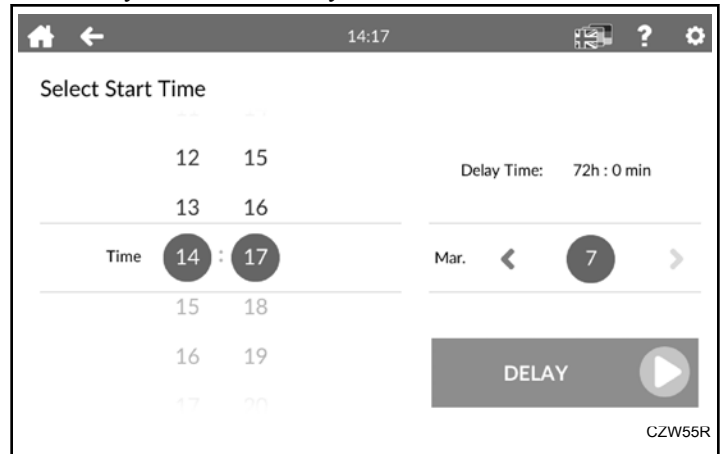

Figure 17
2. Press Delay Start button on Cycle Selected screen, the Delay Start screen appears. Refer to *Figure 17*. Selecting a different wash cycle deselects Delay Start.